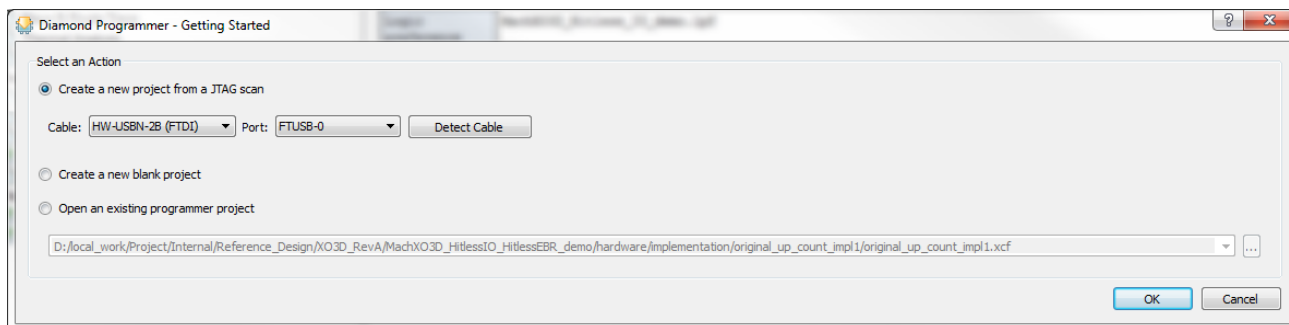

Figure 6.1. Diamond Programmer Getting Started Dialog
1. Launch Diamond Programmer Version 3.11 or above. In the Getting Started dialog box (Figure 6.1), select **Create a new project file from JTAG scan**. Click **OK**.